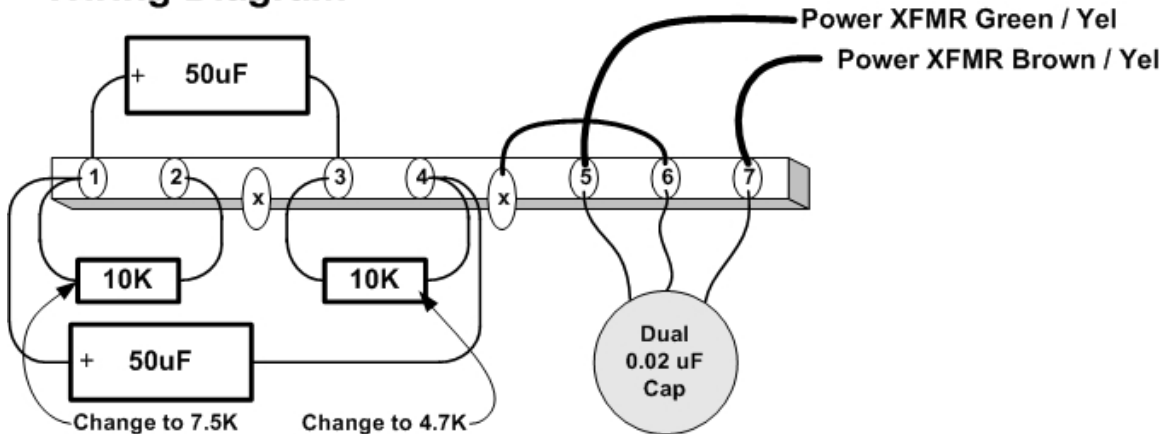

Figure 4 – CAE ASM-3U Installation (Bottom View)
V. Stage 3 – Installation of the New CAE-PC-3U Stereo 70 Driver Board – Refer to Figure 4
- Note – Figure 4 shows wires connecting to terminals 4&5 and 15&16 originating from the output tube sockets. Some amplifiers will have these wires originating from the front panel octal sockets – either is acceptable.